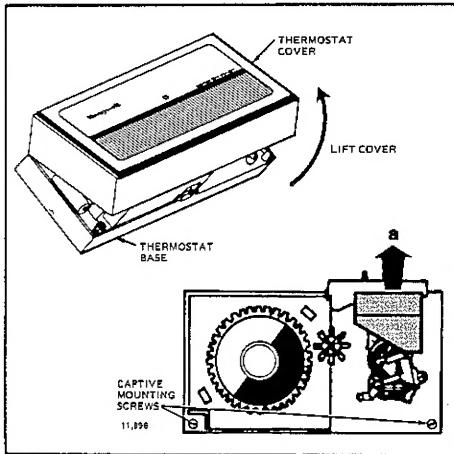

Fig. 1—Unpack thermostat.
- Handle new thermostatic carefully; rough handling may interfere with its accuracy. Before unpacking, refer to Fig. 1.